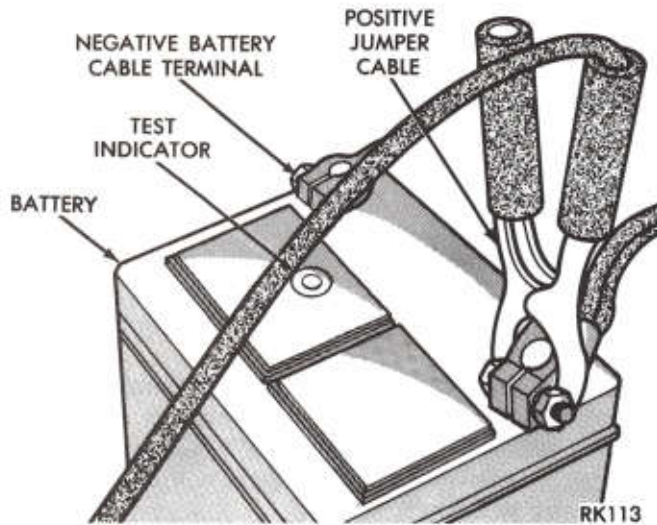

Fig. 1—Connecting Positive Jumper Cable
(1) Set parking brake and place automatic transmission in "Park" (neutral for manual transmission). Turn off lights, heater and other electrical loads. Observe charge indicator. If indicator is light or yellow replace battery. **Do not** attempt jump starting when indicator is light or yellow. If charge indicator is dark and has a green dot in the center, failure to start is not due to a discharged battery and cranking system should be checked. If charge indicator is **dark or red ball** appears in center, proceed as follows:
(2) Attach one end of one jumper cable to positive terminal of booster battery and other end of the same cable to positive terminal of discharged battery (Fig. 1).